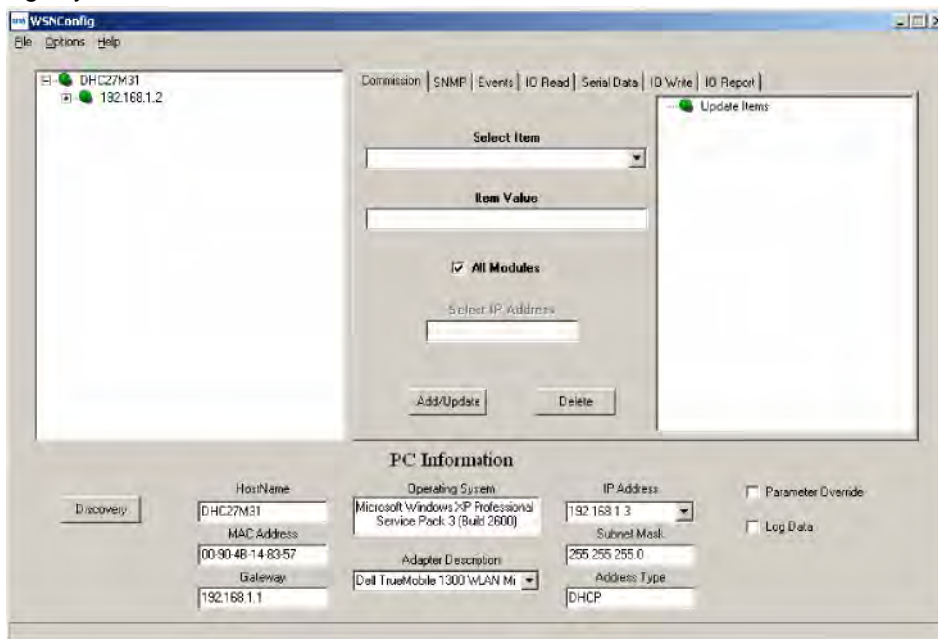

Figure 8.3.3
6. Start the WSNConfig.exe program. Click on the WSNConfig.exe *Discovery* button. In a few moments the IP address of the WSN802G module will be displayed near the top of the left hand text box on the WSNConfig window, as shown in Figure 8.3.3.